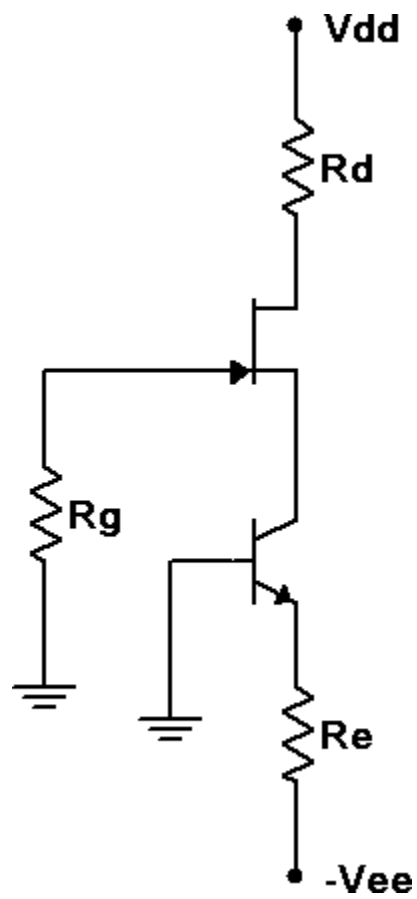

Figure 4
9. Consider the circuit of Figure 4 using $V_{DD} = 15$ volts, $V_{EE} = -5$ volts, $R_d = R_e = 4.7\ k\Omega$ and $R_g = 330\ k\Omega$. Calculate and record the expected voltages for JFET 1 in Table 6. Also record the expected drain current in Table 7.
10. Build the circuit of Figure 4 using $V_{DD} = 15$ volts, $V_{EE} = -5$ volts, $R_d = R_e = 4.7\ k\Omega$ and $R_g = 330\ k\Omega$. Measure and record the voltages for JFET 1 in Table 6. Based on V_D , compute and record the experimental drain current in Table 7. Also find and record the drain current deviation.
4. In general, identify two ways of increasing the drain current in the circuit of Figure 4.